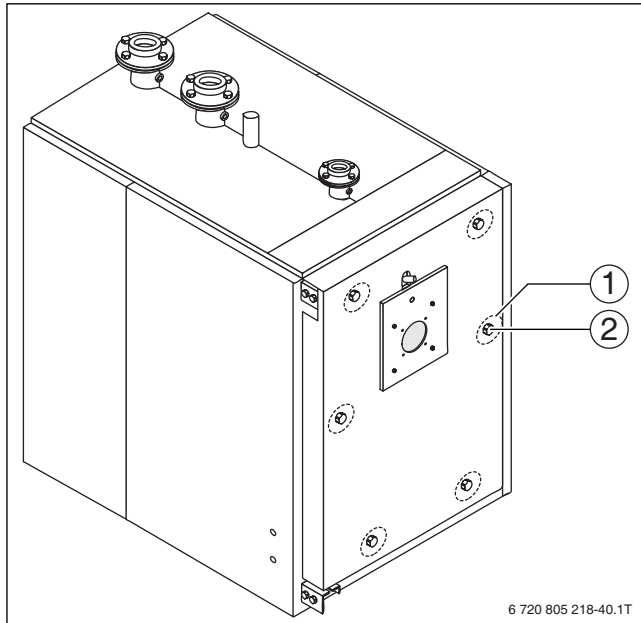

Fig. 33 Adjust the door
- ▶ Remove the main fixing bolts (→ Fig. 33, [2]) holding the door in place.